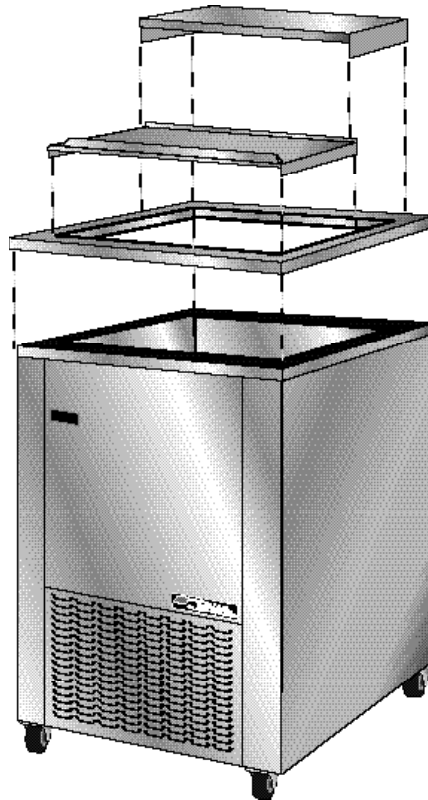

Figure 1
- The top sliding door, door hood, and trim piece around the top of the cabinet simply come off with no tools required. This is for easier cleaning. Please see figure 1.